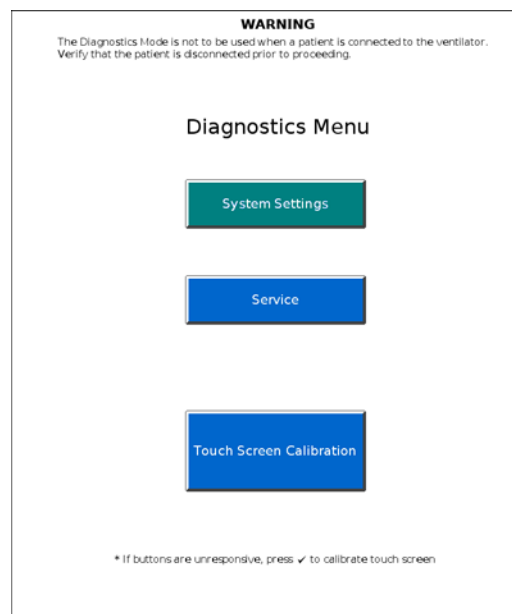

Figure 5-1: Diagnostics Menu
2. Within five seconds, press the nav-ring **Enter** button again to enter the Diagnostics Menu (Figure 5-1).